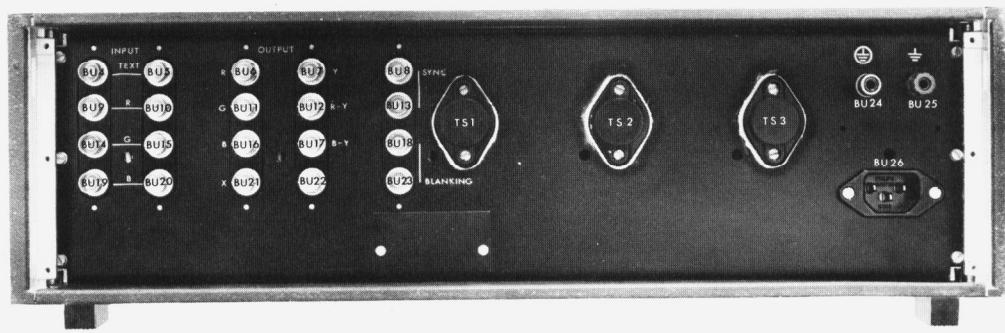

Fig. VIII-2. Rear of the instrument
Socket BU21 (see Fig. VIII-2) and the earthing core of the mains lead.
Socket BU22 (see Fig. VIII-2) and the screening of the coaxial connection cables.
B. Rear of the instrument (see fig. VIII-2)